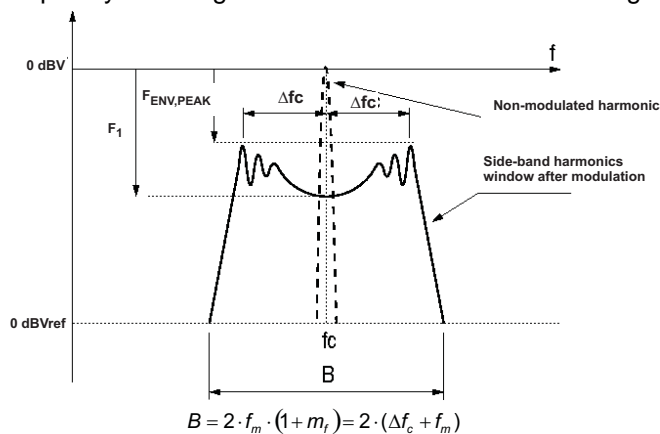
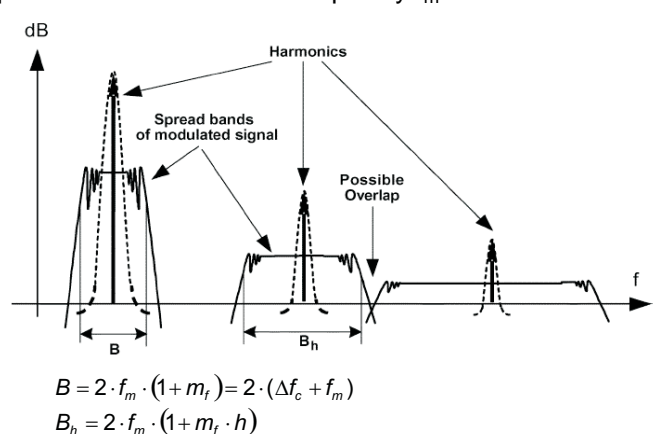

Figure 26. Spectrum of a Frequency Modulated Sin. Wave with Sinusoidal Variation in Time
Figure 27. Spread Bands of Harmonics in Modulated Square Signals (1)
(1) Spectrum illustrations and formulae (Figure 26 and Figure 27) copyright IEEE TRANSACTIONS ON ELECTROMAGNETIC COMPATIBILITY, VOL. 47, NO.3, AUGUST 2005. See References section for full citation.